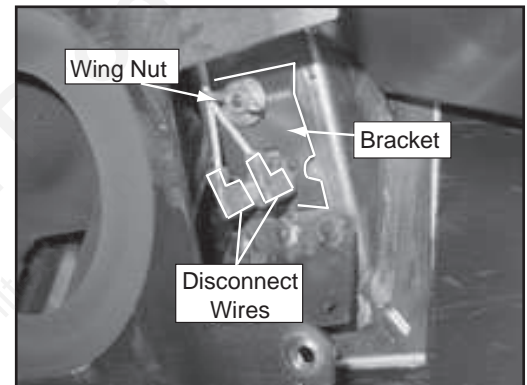

Figure 36.3
- i. Disconnect wires from snap disc #2. **Figure 36.3.**